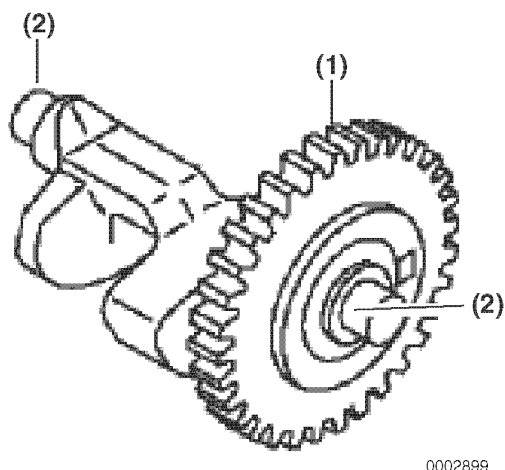

Figure 6-64
Check the balancer shaft for wear or damage to the gear (**Figure 6-64, (1)**). Measure and inspect the bearing support ends (**Figure 6-64, (2)**) of the balancer shaft and bearings for wear and damage. Replace the balancer shaft and bearings if specifications are not within limits or damage is evident. See *Balancer Shaft* on page 6-9 for the service limit.